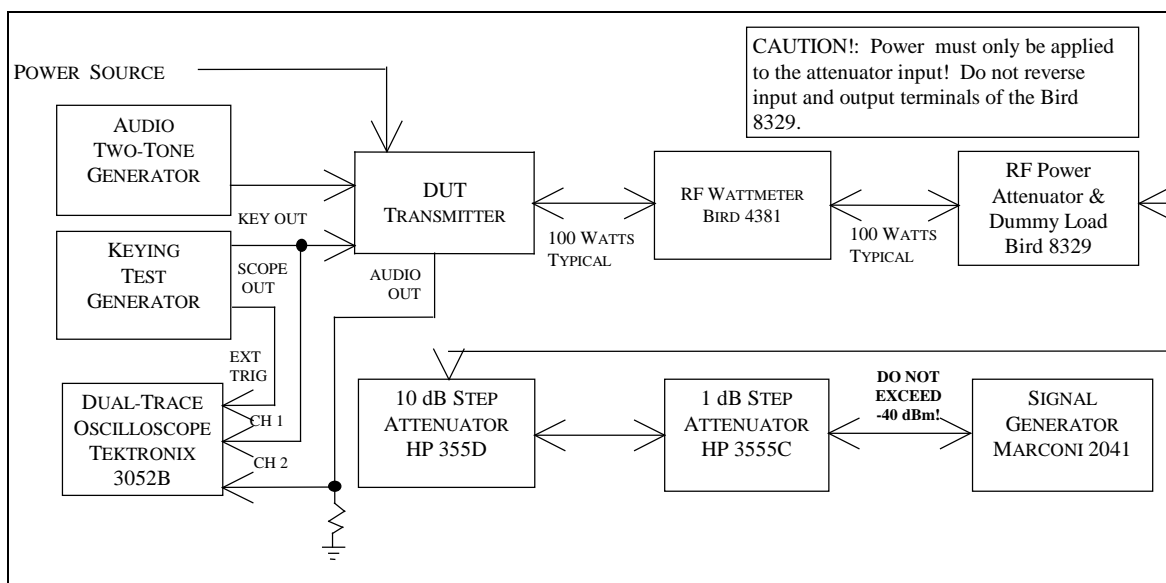

Fig. 4-9 — Transmit/Receive Turnaround Time Test Hook-up
4.9.2 Test hook-up (See Fig. 4-9)